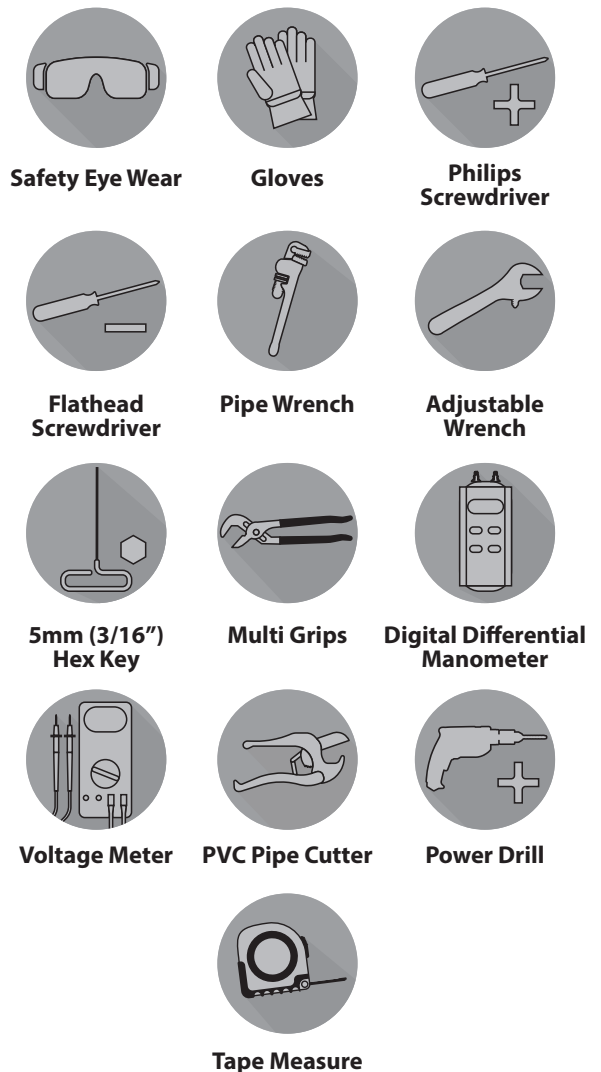

Figure 4. Required Tools
When combustion air is supplied directly through an outside wall, each opening should have a minimum free area of 25.4 mm square (1 in2) per 1.2 kW input of the total input rating of all appliances in the enclosed area. If combustion air must pass through horizontal ducts, each opening should have a minimum free area of 25.4 mm square (1 in2) per 1.2 kW input of the total input rating of all appliances in the enclosed area. Details can be found in Figure 4.
The "Minimum Net Free Open Area" information from Figure 4 is not applicable in installations where exhaust fans or blowers of any type are used. Any equipment which exhausts air from the room where the heater is installed can deplete the combustion air supply or reverse the natural draft action of the venting system. This could cause flue products to accumulate in the room. Additional air must be supplied to compensate for such exhaust. Consult a professional engineer to ensure that installations where exhaust fans or blowers are used are designed and installed in accordance with all applicable local and national installation codes.
- STATIC PRESSURE - NEGATIVE:** Appliance operates with a negative vent static pressure, a vent gas temperature that avoids excessive condensate production and will vent vertically terminating at the roof. Termination must pass through a properly installed and approved roof jack, a properly sized storm collar and a listed vent cap. See *Figure 4*.
- Horizontal runs of vent piping may be used but must not exceed 4.9 m (16 ft.) in length and must always maintain the minimum pitch/slope for any horizontal runs, as specified in *Figure 4*.